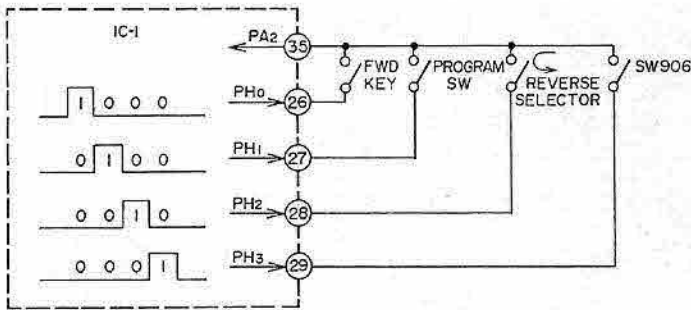

Fig. 14
If any input is made into (35), it is processed within the microcomputer depending on the signal and the signal is outputted from the respective terminal. If 1000 is inputted into (35), it is judged as FWD and the related signal is inputted to the output terminal. (See Fig. 14). Similarly, Signal 0100 from (27) passes the emitter and collector of TR86 and enters the Counter P.C Board. When the program SW (SW6) is pressed, Signal 0100 is inputted into IC1 (35), Signal 0010 from (28) passes the collector/emitter of TR87, and through D66 and the reverse selector SW ( ), it is inputted into IC1 (35). Signal 0001 from (29) passes SR1 and SW906 and is inputted into (35).